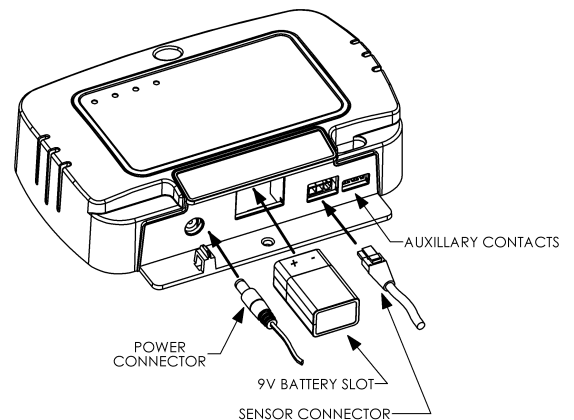

Figure 3
- 4) Route the sensor cable out of the sump pit and connect it to the bottom of the alarm enclosure. See **Figure 3**.
- 4) Route the sensor cable out of the sewage pit and connect it to the bottom of the alarm enclosure ensuring it does not interfere with the operation of the primary pump's float. See **Figure 3**.
- 1) Connect the supplied power adapter to the alarm unit as shown in Figure 3. Plug the power adapter into the wall receptacle and verify that the green "power" indicator illuminates.
- 2) Install the 9V battery as shown in **Figure 3**.